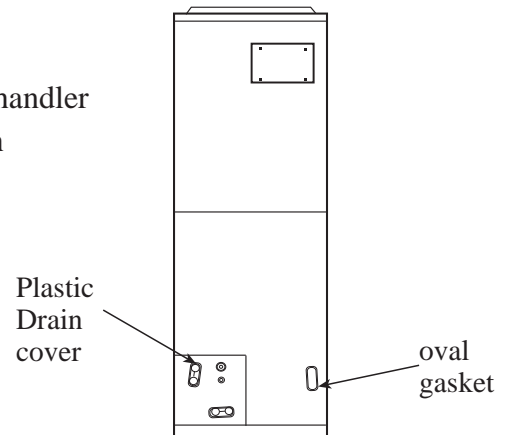

Fig.1
- 2) Remove J-shape metal bracket. Slide out from the Airhandler cavity the "A" coil pan assembly with horizontal drain pan on the right side. Remove oval gasket from horizontal pan drain and also remove the plastic drain cover from the lower left access panel. Fig. 1.